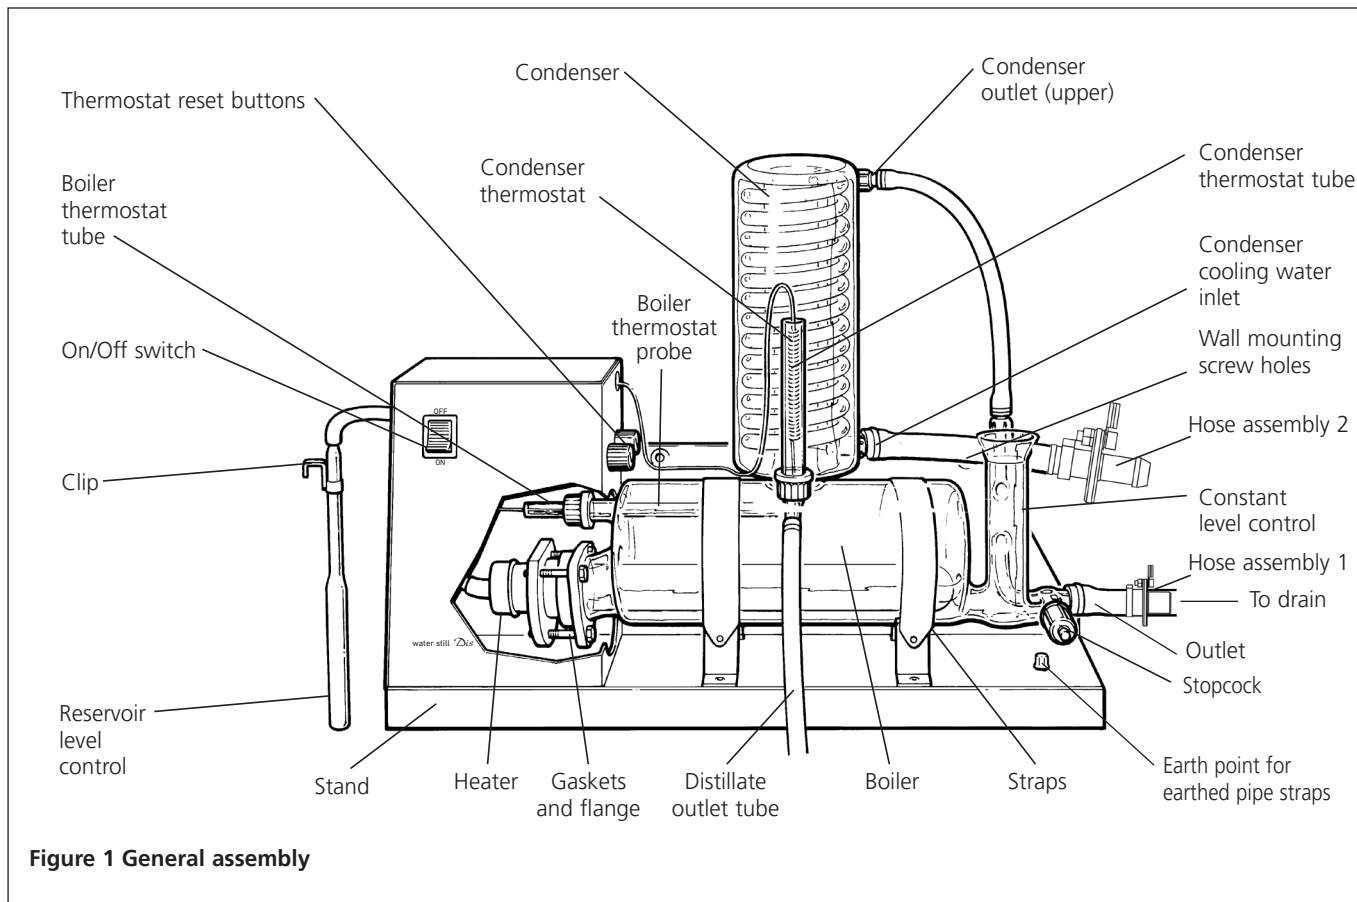

Figure 1 General assembly
- From the hose kit take the length of 8mm bore hose fitted with the plastic screwthread connectors at either end. Referring to **figure 1**, screw one end of the hose to the condenser outlet (upper) and the other end to the glass thread on the constant level control.
Identify the "condenser" thermostat and place the free end of its probe into the thermostat tube. Carefully bend the capillary to ensure that it does not obstruct access to the thermostat reset buttons. - see **figure 1**.
- Take the reservoir control WLS and push the free end of the rubber tubing onto the nozzle on the left hand end of the unit - see **figure 1**.
- Ensure that the earthed spigot wires are connected to the earth point see fig 1.
- Ensure that the earth wire is connected correctly to the earth post - see figs 1 and 4c.
- Ensure that the earth wire is connected to the earth post - see figs. 1 and 4c.